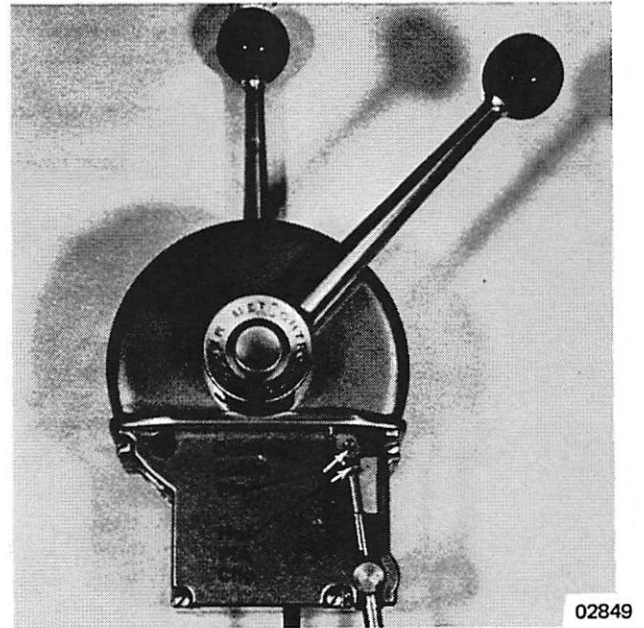

Figure 2. Cables Installed
3. Control cables are held in position with pins and hair pin clips. (Figure 2)